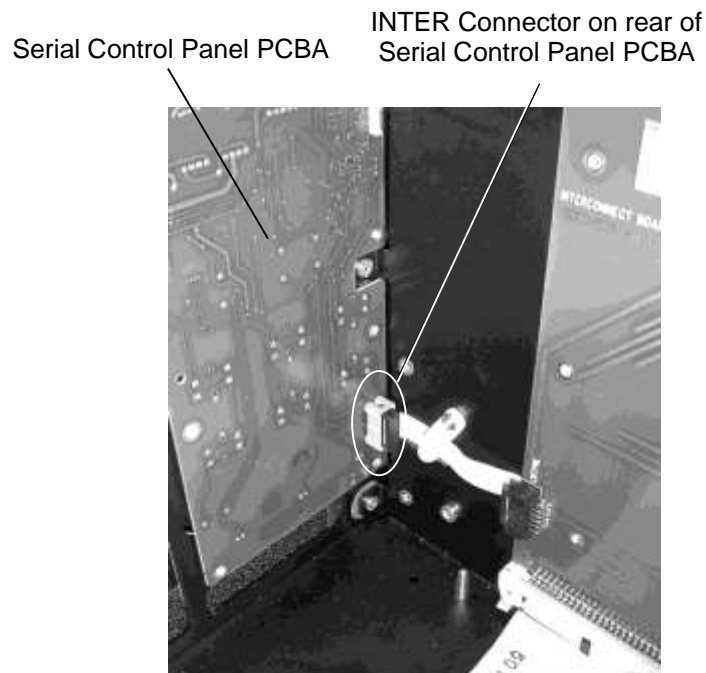

Figure 7-23 INTER Connector and Cable
3. Disconnect the ribbon cable located on the rear of the Serial Control Panel PCBA. See Figure 7-23.
3. Dress the ribbon cable under the plastic retainer clip as shown and then reconnect the cable to the INTER connector. See Figure 7-23.